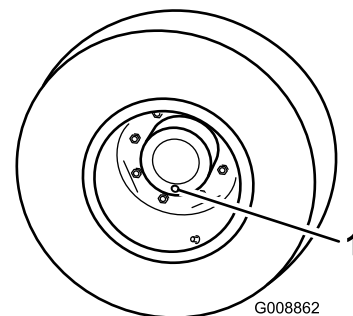

Figure 62
1. With the machine on a level surface, position a wheel so a check plug is at the lowest (6 o'clock) position (Figure 62).